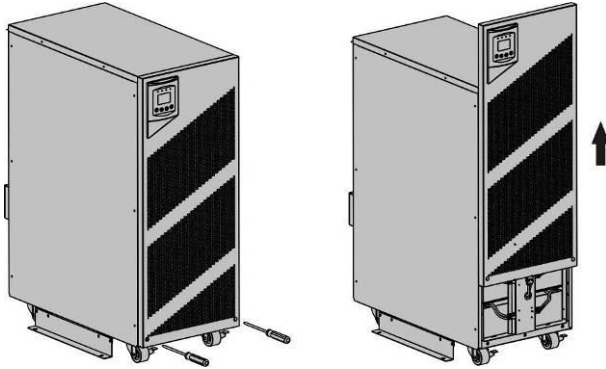

Figure 28: Removing the front cover of the UPS system
10. Remove the front cover of the UPS system/battery module and release the ribbon cable from the display of the front cover (see Figure 28).